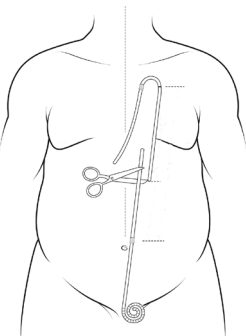

Figure 16
2. Overlap the Upper and Lower catheters and choose an appropriate location to cut and join the two. See figure 16